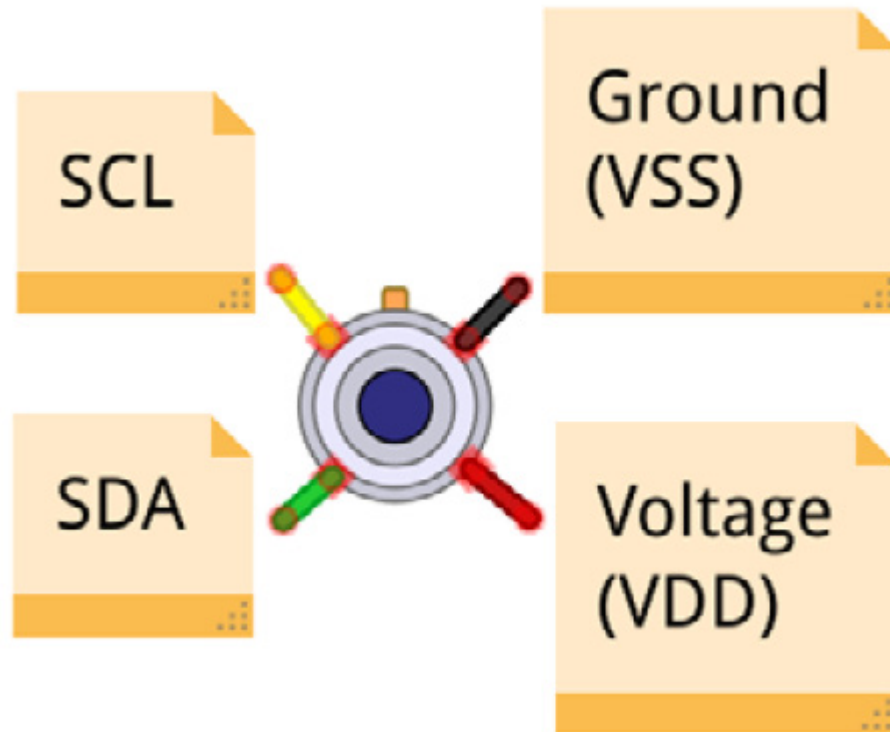

Figure 12.3 – MLX90614 IR sensor pinout
*Figure 12.3* shows the *top* view of the MLX90614 sensor diagram pinout:
In *Figure 12.3*, you will notice that there is a small notch on top of the sensor. This notch helps you identify which pin is which.